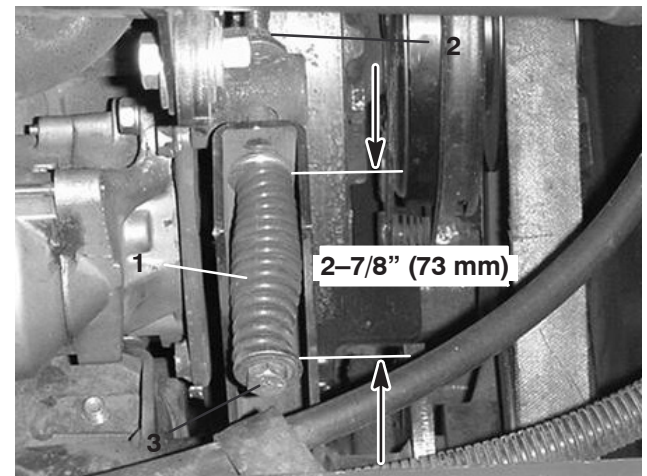

Figure 41
2. Loosen the tensioning rod jam nut (Fig. 41).
3. Use a 1/2" wrench to tighten or loosen the belt tensioning spring (Fig. 41). Adjust spring to a length of 2-7/8" (73 mm).
3. Using a 1/2" wrench, loosen the belt tensioning spring (Fig. 41) all the way.
5. Install the new PTO belt and re-tension the pulley spring to 2-7/8" (73 mm) (Fig. 41).
6. Tighten the jam nut (Fig. 41) and close the hood.